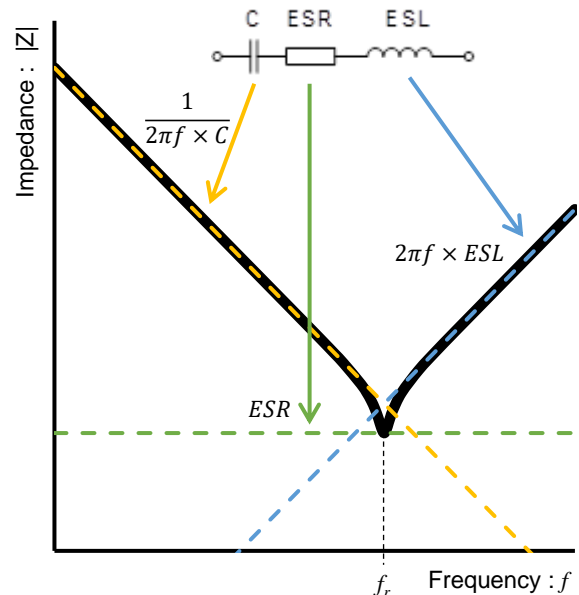

Figure 2. Impedance characteristics of equivalent circuit of capacitor
The impedance of this equivalent circuit can be calculated with Equation (1), and its characteristics are shown in Figure 2. In the low frequency region, the impedance is determined by electrostatic capacity C. In the high frequency region, the impedance is determined by ESL. The self-resonance frequency is where C and ESL are series resonant and their impedances agree ( $1/2\pi f C = 2\pi f ESL$ ). Since neither C nor ESL has influence, the impedance is determined only by ESR. The self-resonance frequency can be calculated with Equation (2). According to these characteristics, a capacitor must be used below its self-resonance frequency to function properly.